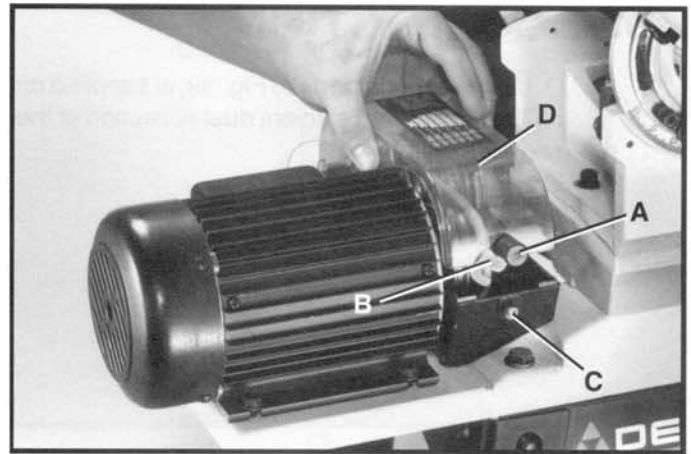

Fig. 35
2. Rotate knob (A) Fig. 35, clockwise to disengage latch (B) from screw (C) and lift top cover (D) as shown.